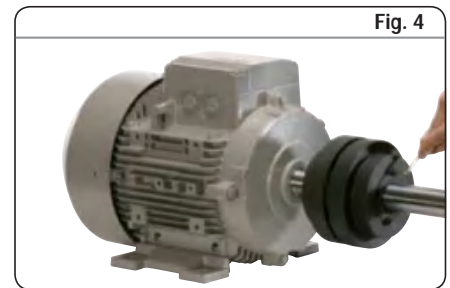
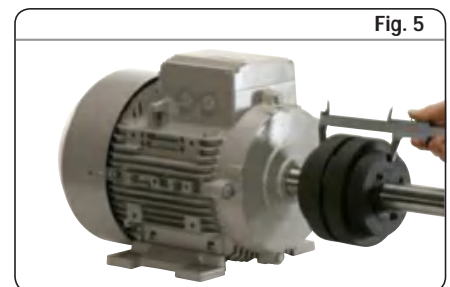

Fig. 4
Fig. 5
- 3 Move the other coupling into position and connect the two halves († fig. 4). Check that the assembled length is correct († fig. 5).